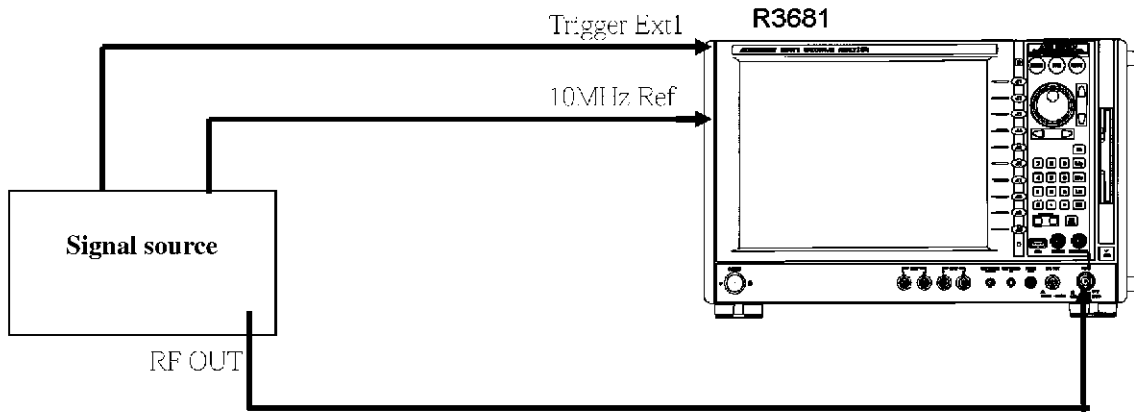

Figure 4-4 Connection Diagram when Acquiring Reference Data
1. Connect the R3681 directly to the signal source as shown in Figure 4-4 (Connection Diagram when Acquiring Reference Data).